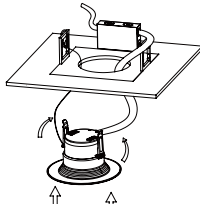

Fig. 5
- Step 5: Squeeze the two housing clips so they are in an upright position and insert lamp into housing (Fig. 5).